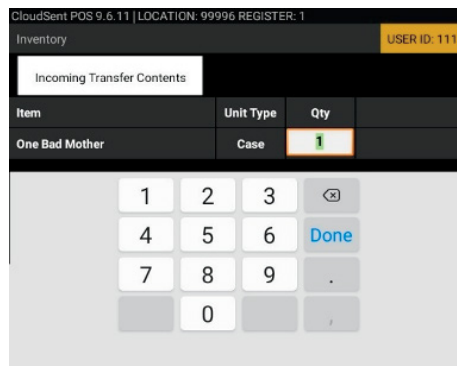

Figure 74
4. Here, you can verify the item quantities and make changes to them as necessary (click on quantity box to make changes) (Figure 74).